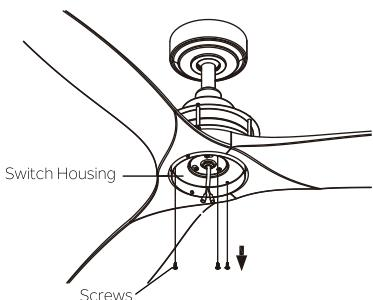

Fig. 25
Step 5. Remove the three screws pre-installed on the outer edge side of the switch housing and save for later use.(Fig.25)